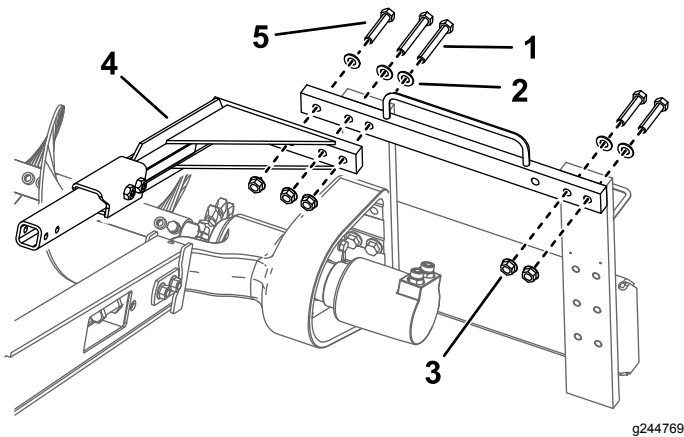

Figure 9
1. Bolt (6)
8. Remove the 2 bolts (5/8 x 3 inches), 2 washers, and 2 nuts securing the right side of the upper frame and move them to the corresponding holes on the left (Figure 9).
1. Bolt—5/8 x 4 inches (2) 4. Safety bar
2. Washer (5) 5. Bolt—5/8 x 3 inches (3)
3. Nut (5)
9. Install the safety bar over the trencher chain using the 3 bolts, washers, and flange nuts removed previously (Figure 9).